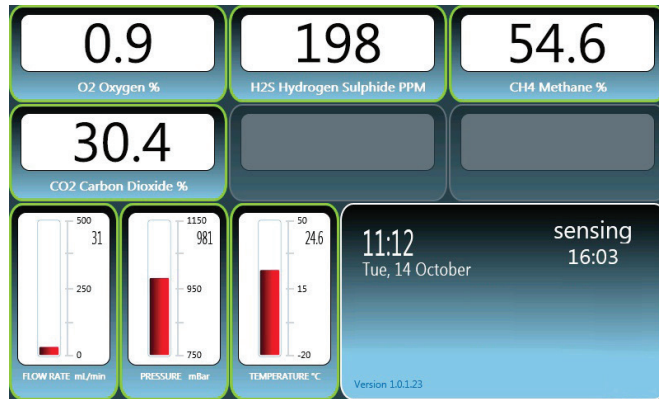

Figure 5.1 - 'Home' display on the graphical user interface
The instrument should then commence its start-up sequence which takes approximately 60 seconds. After the initial boot sequence, each gas sensor should be recognised automatically and presented in the upper half of the graphical user display on the instrument panel- see Figure 5.1. Any of the six gas displays that are not currently required will have the readout area 'greyed out'. Confirm that all the fitted sensors have a read-out on the display panel and that each has a green border, which confirms that the sensor is operating within the default performance limits.
-  **Home**- which takes the user to the 'Home' display screen shown in Figure 5.1
Home- which takes the user to the 'Home' display screen shown in Figure 5.1